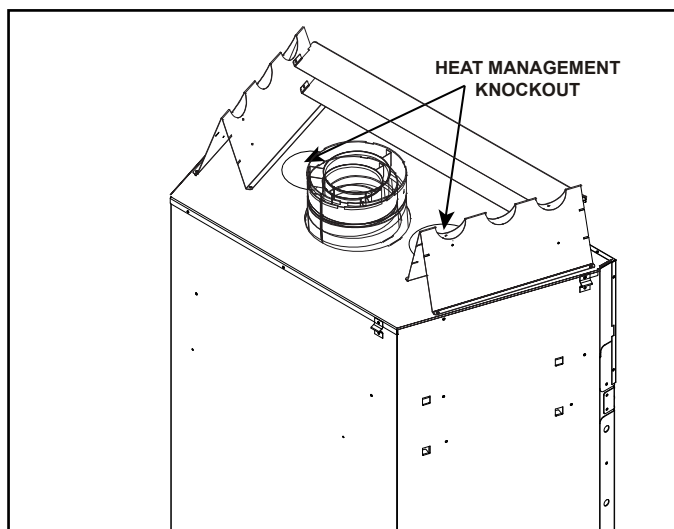

Figure 6.6
- Locate the two heat management ports on the top of the appliance. See Figure 6.6. Use a tin snips to remove one knockout for each heat management option being attached to the appliance.
Passive Heat may be used with HEAT-OUT-GAS or one HEAT-ZONE®-GAS. The dedicated knockouts, as shown in Figure 6.6, must be used only as indicated.